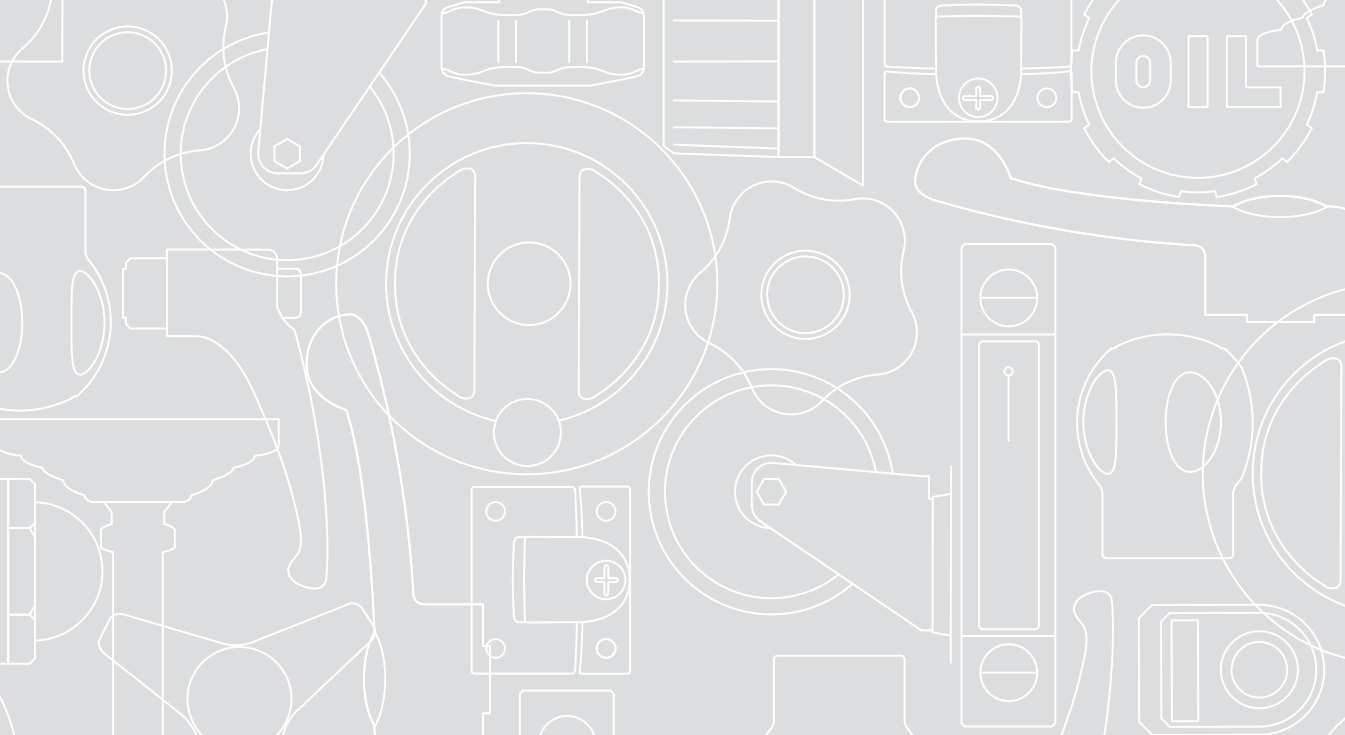

Fig.1
- The internal battery ensures long battery life (over 3 years). A special symbol appears on the display when it is necessary to replace the battery. The replacement can be performed easily by removing the front cover (Fig.1), without disassembly of the indicator from the control shaft and without the loss of configuration parameters.
UC-RF control unit, connected directly to PLC, receives the target positions and sends them to DD52R-E-RF electronic position indicators, receiving their current position (Fig.1).